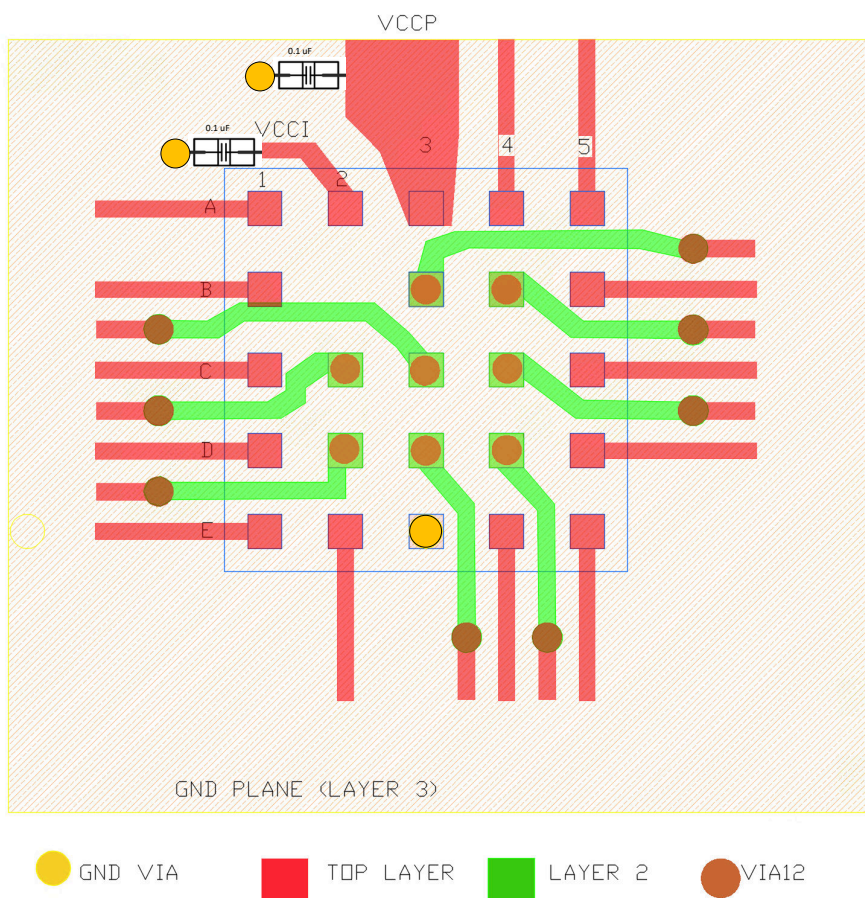

Figure 8-9. TCAL6416R DTO Partial Example Layout (4-Layer)
It is a best practice to avoid right angles in signal traces, to fan out signal traces away from each other upon leaving the vicinity of an integrated circuit (IC), and to use thicker trace widths to carry higher amounts of current that commonly pass through power and ground traces in all PCB layouts. Bypass and decoupling capacitors are commonly used to control the voltage on the supply pins. Using a larger capacitor provides additional power in the event of a short power supply glitch, and using a smaller capacitor filters out high-frequency ripple. These capacitors should be placed as close to the TCAL6416R as possible. Figure 8-9 shows these best practices.